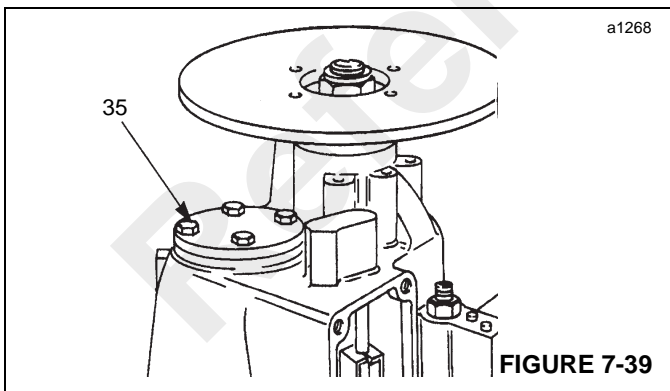

FIGURE 7-39
35. After checking that the layshaft outer bearing is adequately lubricated with grease, install the layshaft bearing cap (35, Figure 7-39) with the gasket used in step 32. Coat threads of bolts with Loctite 243 and tighten to a torque of 56 Nm (42 lb-ft).